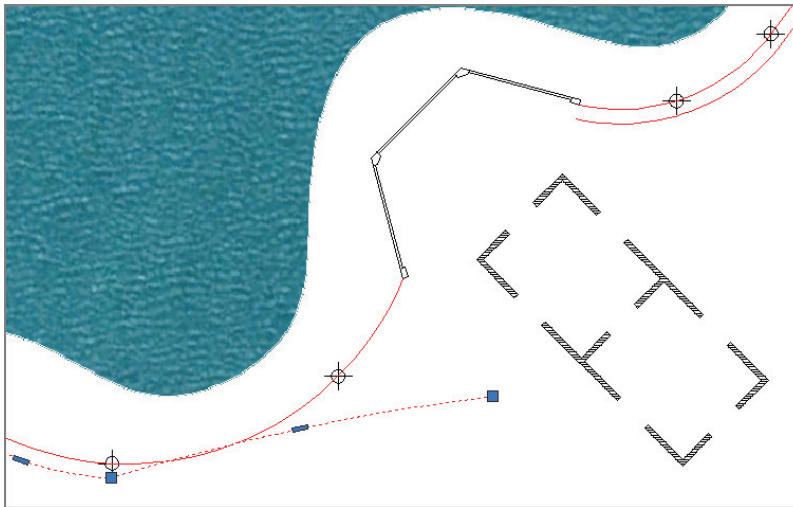

FIGURE 5.6 Adjusting an existing polyline with its grips
12. Pan over to the building at the bottom of the lake. We'd like the ends of the paths to open up to the building. Click the lower-left polyline to select it. Click the endpoint grip, move it down a short distance, and click again (see Figure 5.6). You can't get the end of the path to open up without distorting the path farther up because it's all part of the same arc segment.